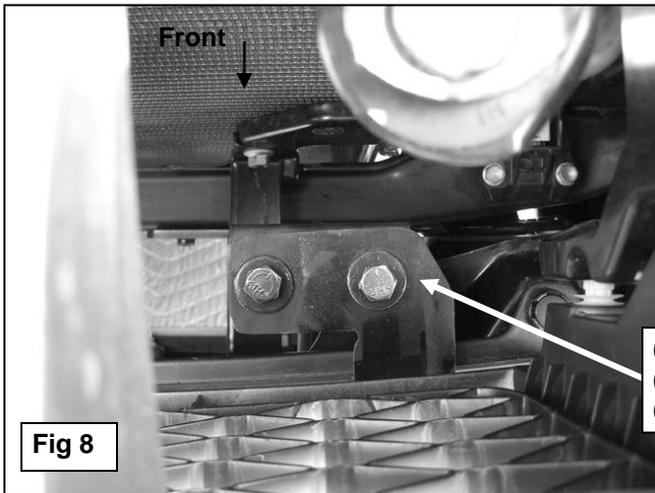

Fig 8
8. Select the driver side Top Bracket, **(Figure 6B)**. Insert the Bracket through the gap between the bottom of the grille and the top of the bumper, **(Figure 6A)**. Line up the (2) holes in the Top Bracket with the (2) threaded holes in the Support Bracket, **(Figure 7)**. Bolt the Top Bracket to the Support Bracket with the included (2) 8mm x 25mm Hex Bolts, (2) 8mm Lock Washers and (2) 8mm Flat Washers, **(Figure 8)**. Snug but do not fully tighten hardware.